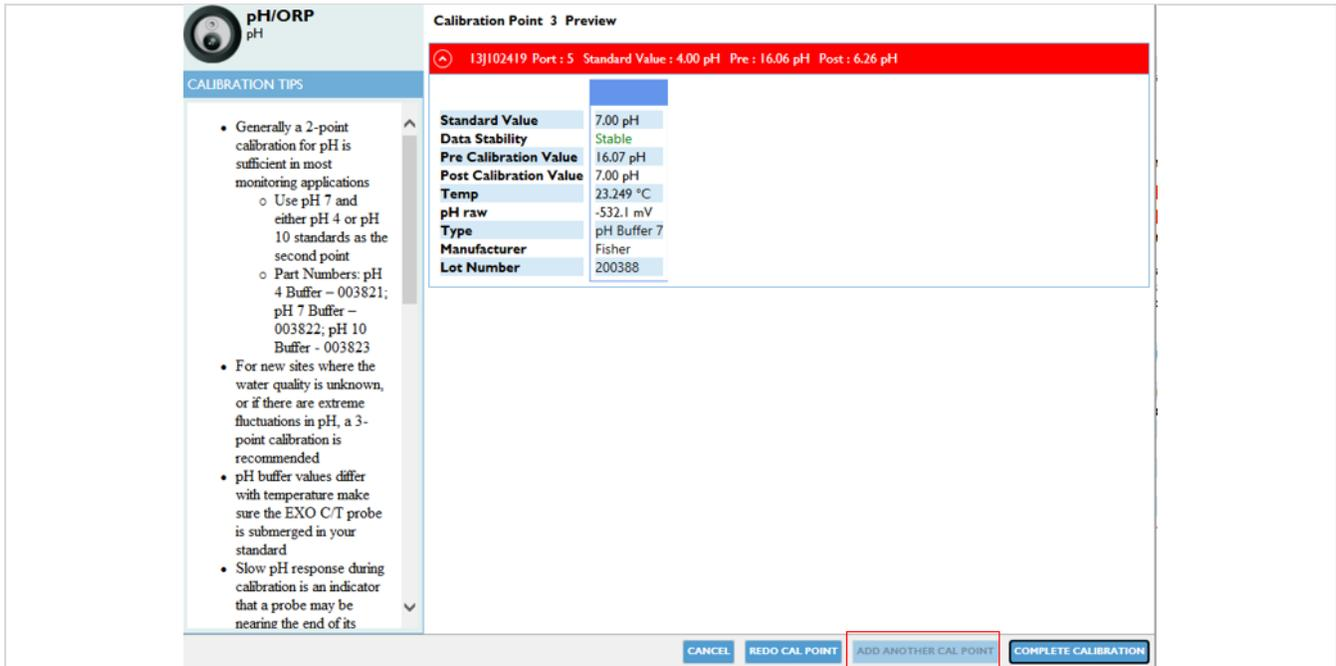

Figure 105. From this menu, select "Add Another Cal Point" to proceed to the second and third values.
**STEP 6** | For Calibration Point 2 of 3, repeat the same actions as the previous step. Triple rinse with each standard between each step. It is OK to use expired buffer solutions for the triple rinse. Do not use expired solutions for the calibration step. Click "OK" in the Proceed to Standard pop-up window (**Figure 105**).